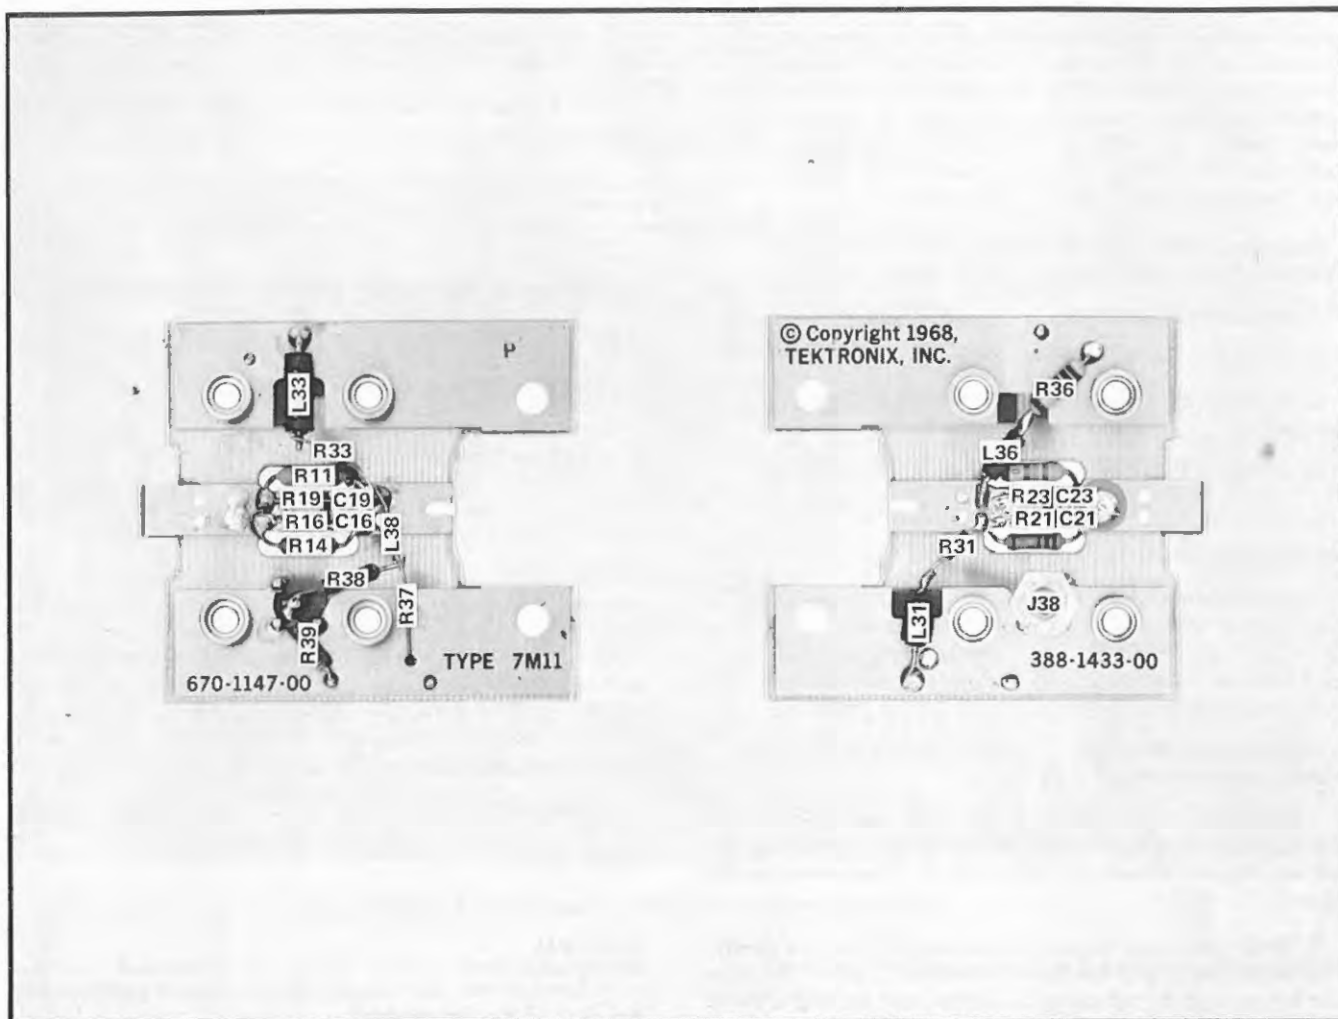

Fig. 4-1. 7M11 compensation network circuit board (the two boards in the instrument are identical).
Fig. 4-1 shows both sides of one of the circuit boards used in the 7M11 (the other board is identical). The electrical components on these pictures are identified by their
circuit numbers. These pictures, when used along with the circuit diagram, aid in locating the components mounted on the circuit boards. The capacitors in Fig. 4-1 are square leadless capacitors which are mounted directly on the circuit board. See the Corrective Maintenance part of this section for replacement instructions.
**Leadless Capacitors.** The coupling capacitors in the series RC networks of the 7M11 are leadless capacitors which are soldered directly to the circuit board (see Fig. 4-1). Use the following procedure when replacing one of these capacitors.